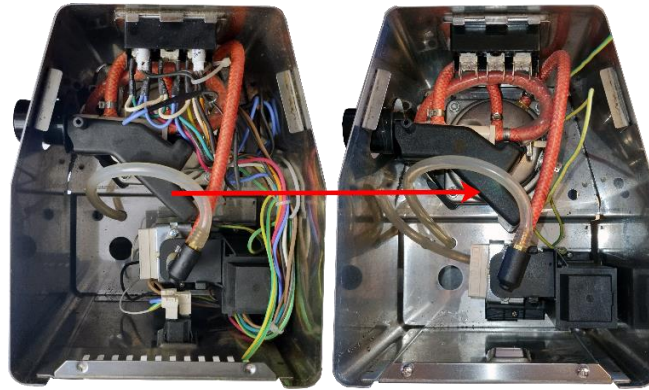

Fig. 3.1
- We need to remove all original cables and electronics. Keep all the ground wires (green-yellow). You need to mount them all back to the same position. (fig.3.1)